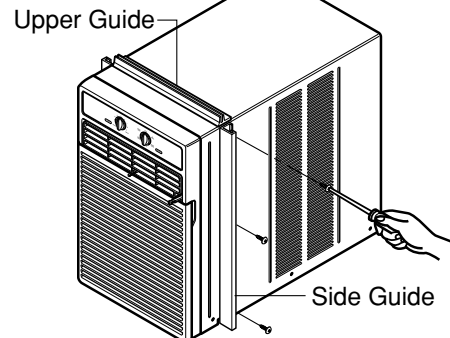

Figure 25
5. Fasten Side Guides to the sides of the Air Conditioner using 3 Type A screws per Guide. Start with first screw at middle of Guide. (See Figure 25)
6. Fasten Upper Guide on the top of the Air Conditioner using 3 Type A screws. (See Figure 25)